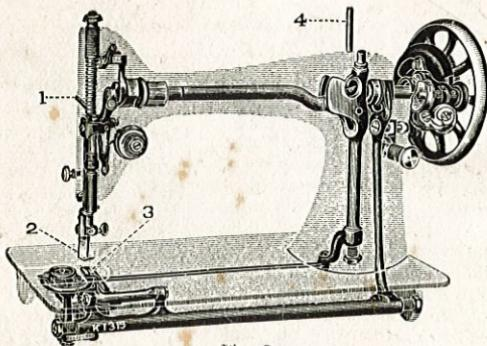

Fig. 2
When familiar with the working movement, tighten the balance wheel by turning the stop motion screw from you, and place a piece of calico or cloth under the presser foot (2, Fig. 2). Lower the presser foot upon the material by means of the presser bar lifter (1, Fig. 2) and again work the machine, without it being threaded, until you have become accustomed to guiding the material.
Tighten the balance wheel, and after placing a piece of material under the presser foot (2, Fig. 2) turn the handle from you with an easy and regular motion. Continue to do this until you are able to guide the material correctly with the left hand.
**Skip Stitches.**—A bent or blunt pointed needle is often the cause of this. See that the needle is accurately set (see page 5). Remove the throat plate, and, after seeing that the feed (3, Fig. 2) is clean and working freely, replace the throat plate.